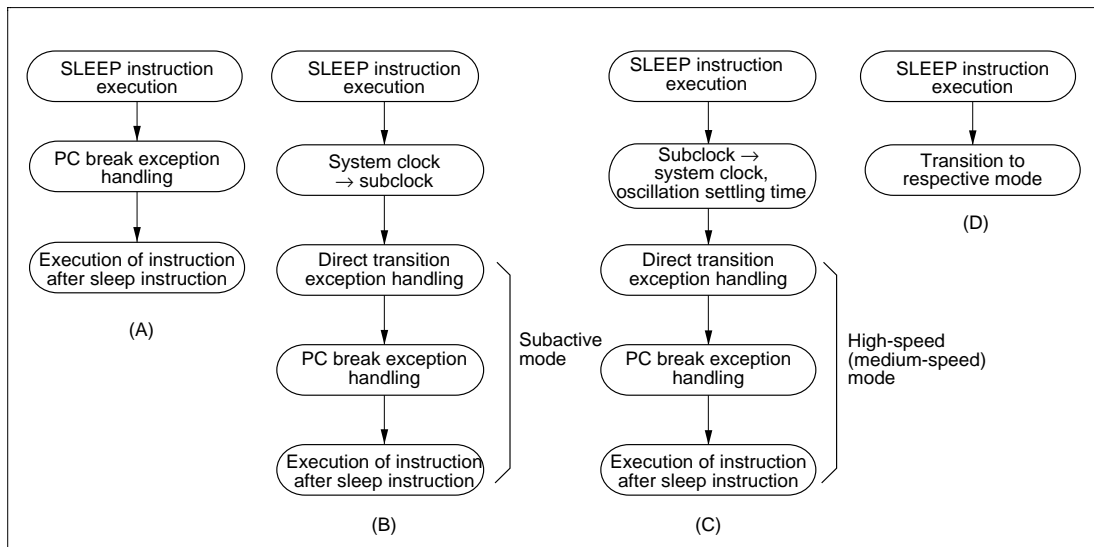

Figure 6-2 Operation in Power-Down Mode Transitions
- (1) When the SLEEP instruction causes a transition from high-speed (medium-speed) mode to sleep mode, or from subactive mode to subsleep mode:
After execution of the SLEEP instruction, a transition is not made to sleep mode or subsleep mode, and PC break interrupt handling is executed. After execution of PC break interrupt handling, the instruction at the address after the SLEEP instruction is executed (figure 6-2 (A)).
- (2) When the SLEEP instruction causes a transition from high-speed (medium-speed) mode to subactive mode:
After execution of the SLEEP instruction, a transition is made to subactive mode via direct transition exception handling. After the transition, PC break interrupt handling is executed, then the instruction at the address after the SLEEP instruction is executed (figure 6-2 (B)).
- (3) When the SLEEP instruction causes a transition from subactive mode to high-speed (medium-speed) mode:
After execution of the SLEEP instruction, and following the clock oscillation settling time, a transition is made to high-speed (medium-speed) mode via direct transition exception handling. After the transition, PC break interrupt handling is executed, then the instruction at the address after the SLEEP instruction is executed (figure 6-2 (C)).
(4) When the SLEEP instruction causes a transition to software standby mode or watch mode:
After execution of the SLEEP instruction, a transition is made to the respective mode, and PC break interrupt handling is not executed. However, the CMFA or CMFB flag is set (figure 6-2 (D)).